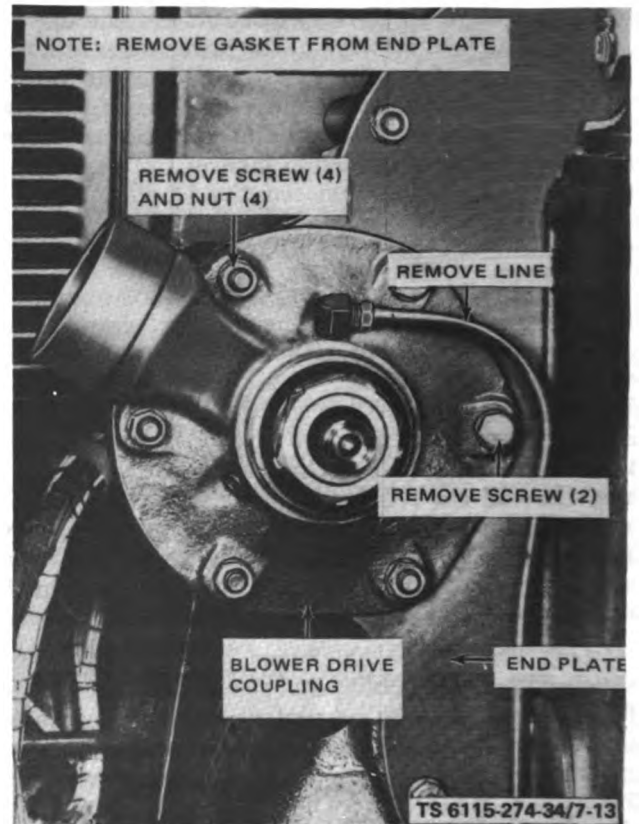

Figure 7-13. Blower Drive Coupling, Removal and Installation
- (1) Remove blower assembly (para 7-15).
- (2) Remove line (fig. 7-13).
- (3) Remove two screws. Remove four screws and nuts.
- (4) Remove gear support and remove gasket from end plate. Remove coupling assembly.